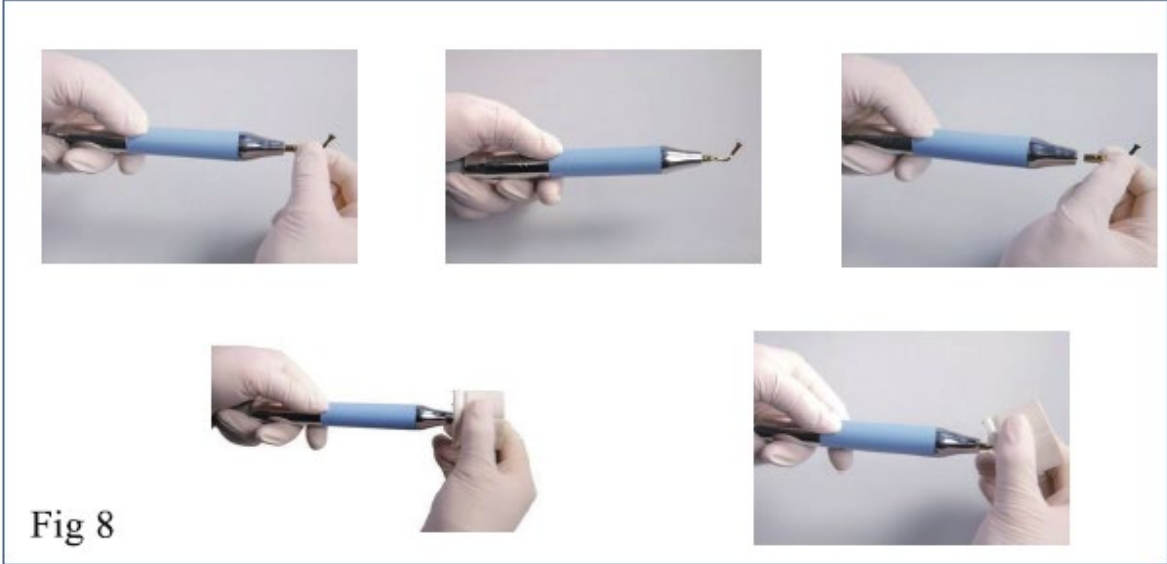

Fig 8
- 7.5.5** Gently screw the shaft or Gold Insert onto the distal end of the piezosurgery handpiece and use the torque wrench to screw the shaft or Gold Insert (Fig. 8) in a clockwise direction until two clicks of the wrench can be heard.
- 7.5.6** (For Tips/Shafts Only) Gently insert the proximal female threaded portion of the tip onto the male threaded distal portion of the shaft and firmly hand tighten (Fig. 8).